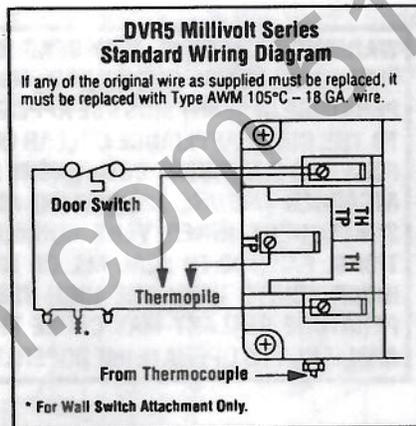
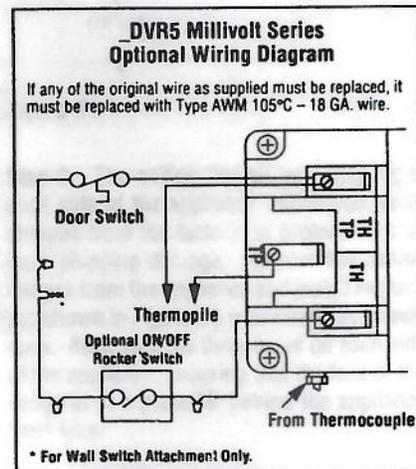

Figure 14
Figure 15
Step 6. Installing the Optional Remote Wall Switch – The standard *_DVR5* millivolt system comes from the factory wired as shown in Figure 14. Select a convenient location for the remote wall switch and connect the wiring to the appliance (Figure 15).